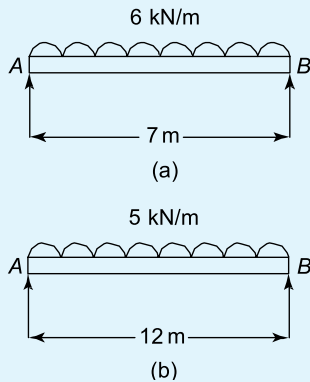

Figure 7.43 Simply supported beams
- Figure 7.43(a)
- Figure 7.43(b)